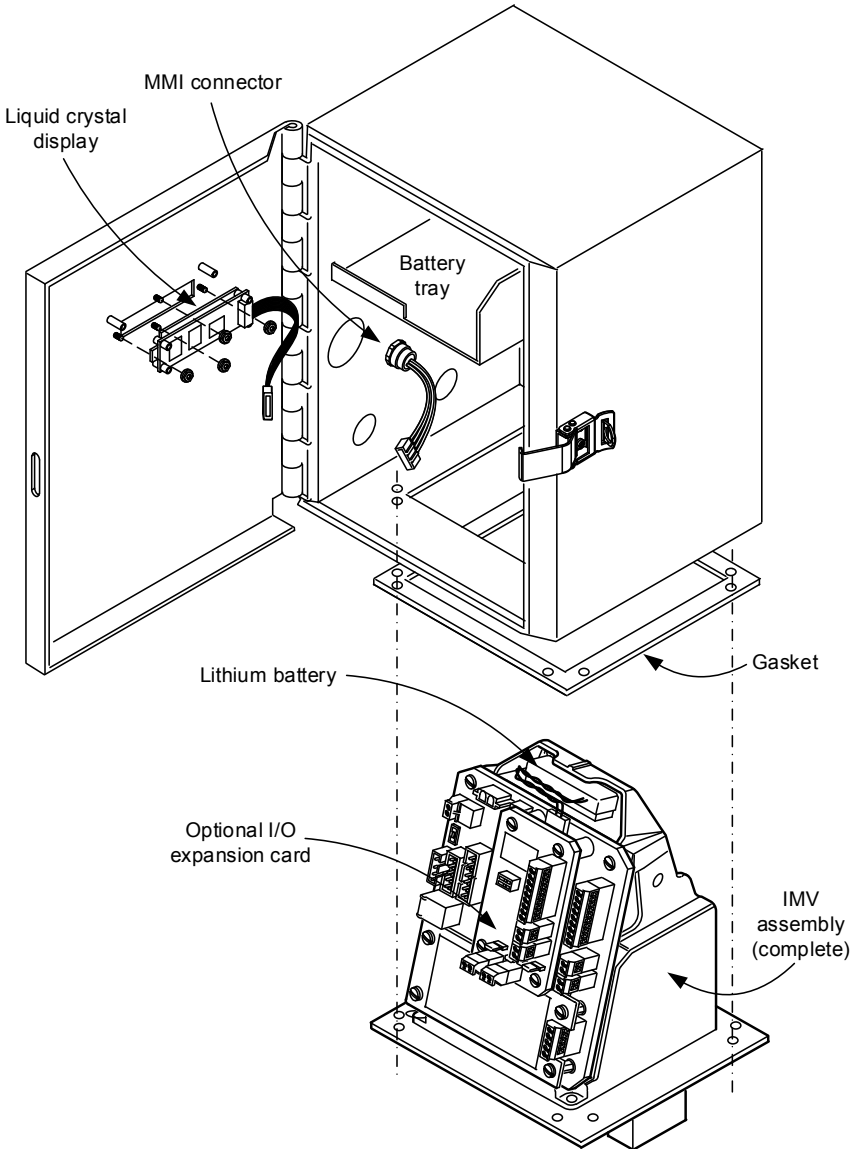

Figure 2: μ FLO IMV replacement (for illustrative purposes only)
1. Using a phillips screwdriver, remove the eight (8) mounting screws, washers and lock washers, located on the bottom of the enclosure, that secure the IMV to the μ FLO cabinet (Figure 2). Be careful not to drop the screws.
1. Place the clean weather sealing gasket over the upper body of the IMV assembly and move the gasket down to the mounting plate just below the electronic board (Figure 2, *μ FLO IMV replacement (for illustrative purposes only)*, on page 8).